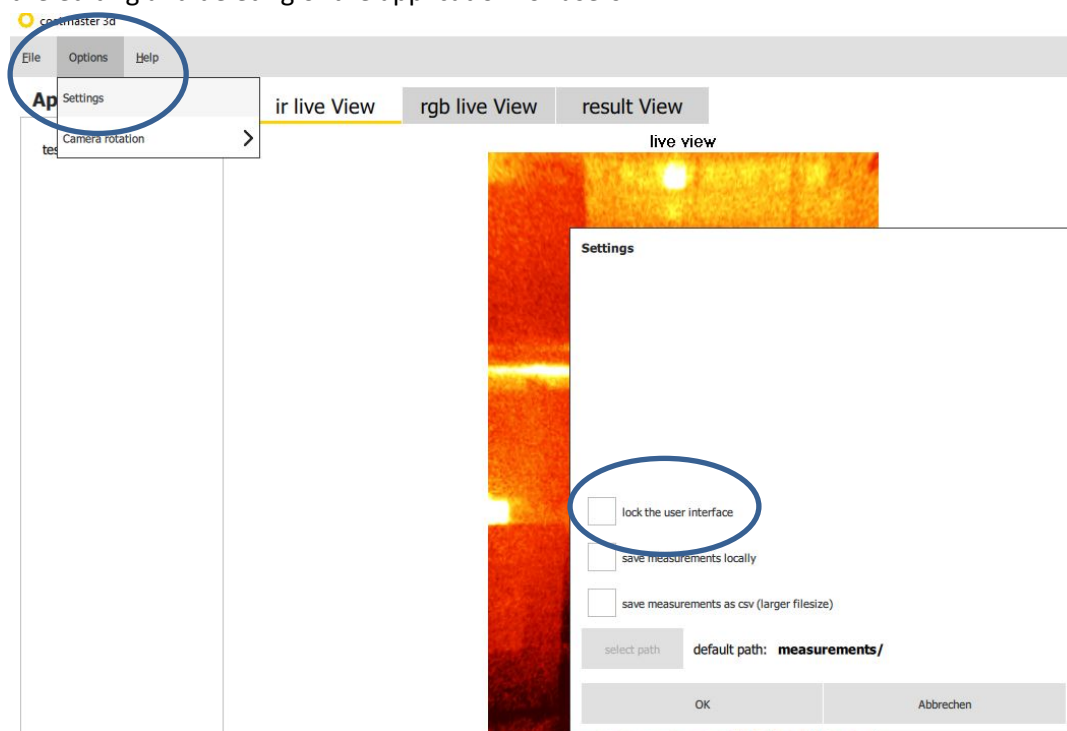

Figure 8. Administrator settings in coatmaster software
6. In the dialog window select the coatmaster to connect to (see Figure 8).
Select *dark mode* (see Figure 8) and all the windows will change from white to black color.